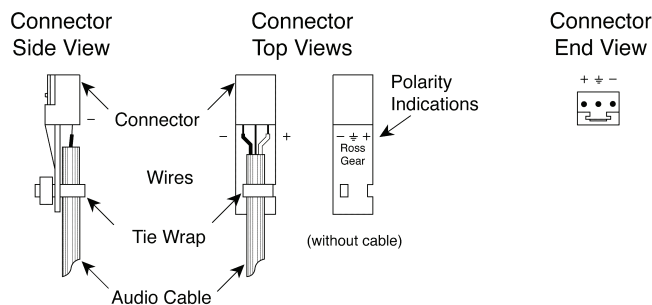

Figure 6. Connector Wiring for R1C-8733 Input Sockets
1. Insert an analog audio wire to the designated polarity slot on the connector. Refer to **Figure 6**.